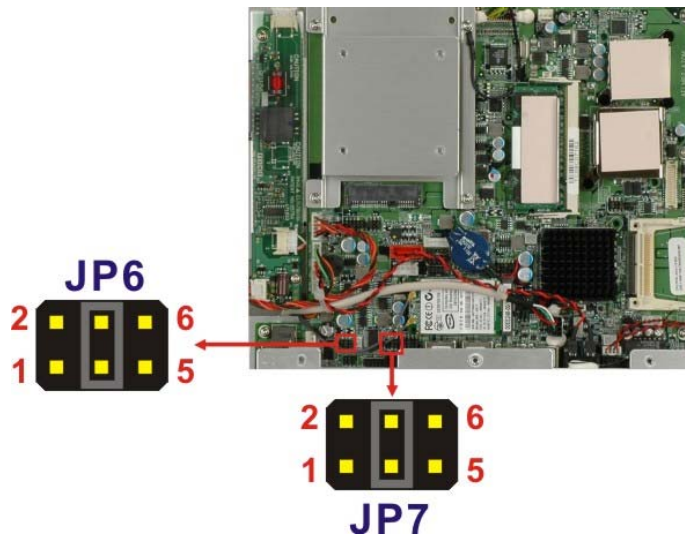

Figure 2-10: COM1 and COM3 Pin 9 Setting Jumper Locations
- Jumper Location:** See Figure 2-10
The COM1 and COM3 Pin 9 Setting jumper locations are shown in Figure 2-10 below.